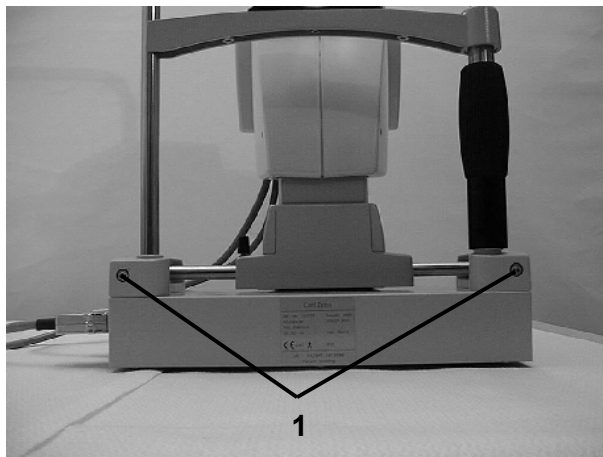

Fig. 9
- Loosen screws ((1) Fig. 9) and remove the headrest.